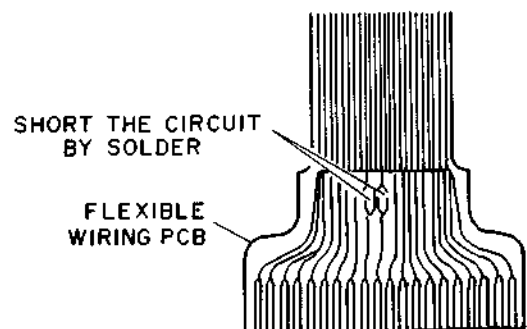

Fig. 4-1
- 3) When connecting or disconnecting the RF AMP PCB (J201), make sure that the FLEXIBLE WIRING PCB is shorted circuit as shown in Fig. 4-1. Do not turn the electricity "ON" while it remains short-circuited.